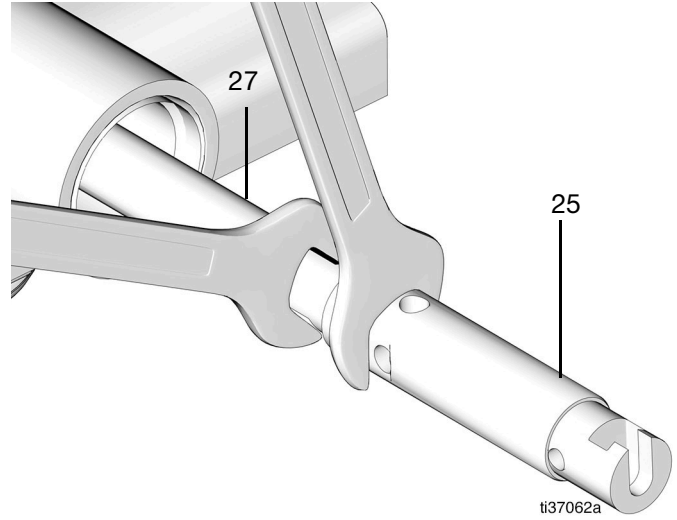
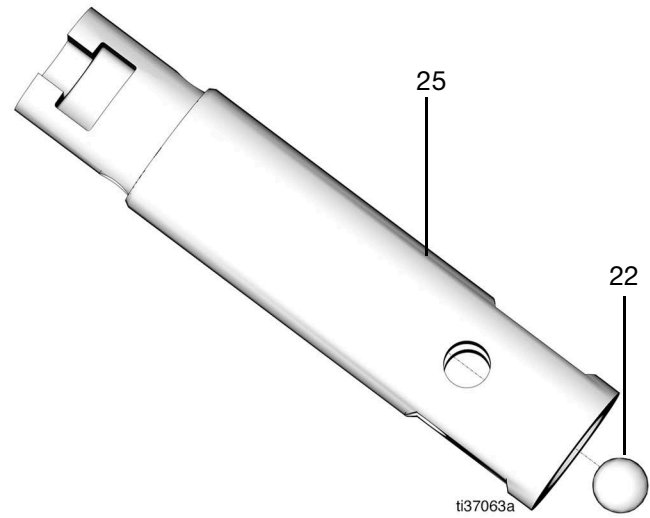

FIG. 43
FIG. 44
- 27. Remove the pump piston (25) from the pump rod (27).
Note: Remove the ball (22) from the pump piston (25) (FIG. 43 and FIG. 44).